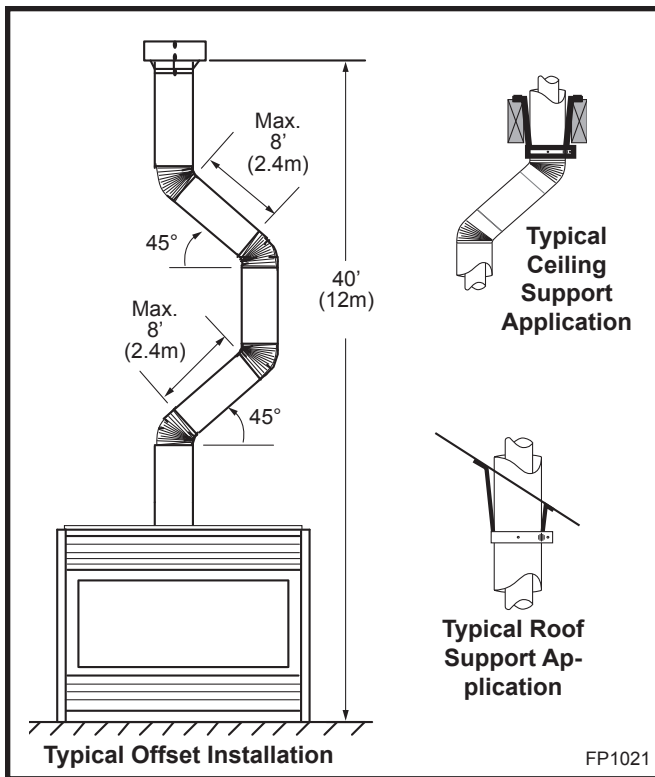

Fig. 34 Typical vertical roof applications.
4. Two sets of 45° elbows offsets within these vertical installations. From 0 to a maximum of 8' (2.4 m) of vent pipe can be used between elbows. (Fig. 34)
5. 7DVCS must be used to support offsets. (Fig. 34)